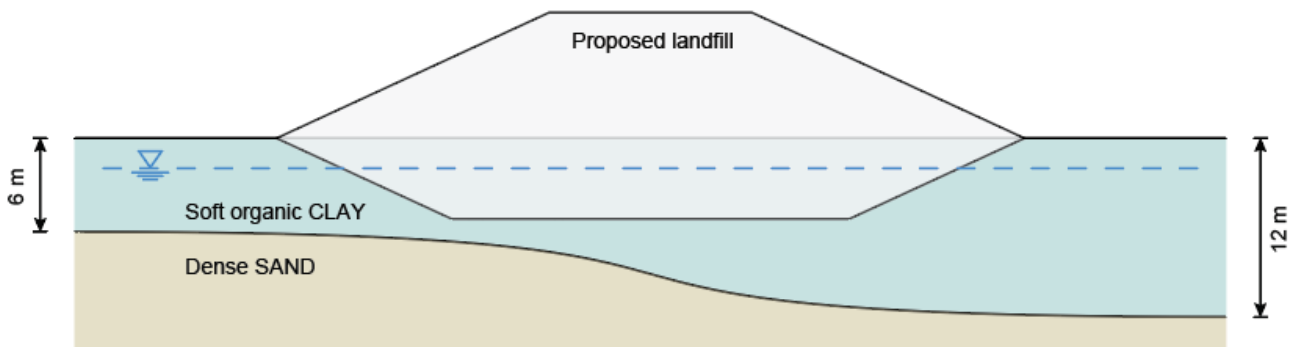

Figure Q1. Cross-section of the site for the proposed landfill
1. A new landfill is to be built at a site with the ground profile shown in **Figure Q1**, which consists of a soft organic CLAY layer of variable thickness.